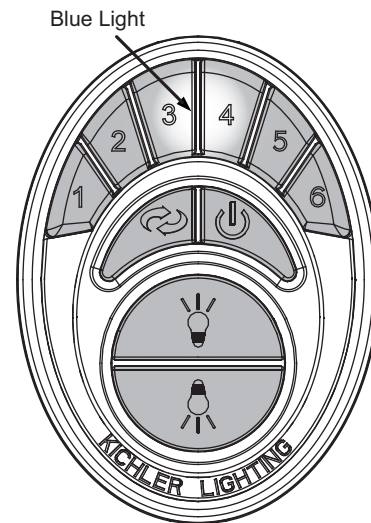

Fig. 19
3. Test the transmitter by pushing and releasing ANY button briefly. A Blue Light should illuminate under the 3-4 buttons. (Fig. 19) If not, check to make sure the batteries are inserted and seated correctly.